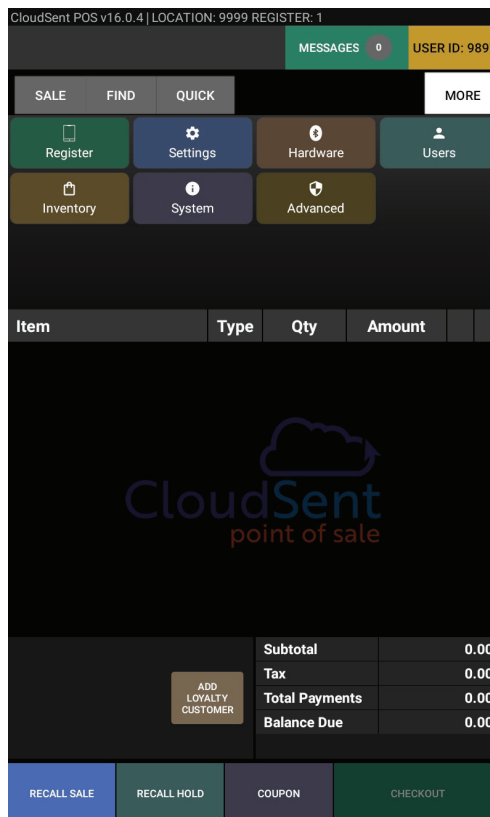

Figure 30
- Once CloudSent is up and running, you should see the sale screen (Figure 30).